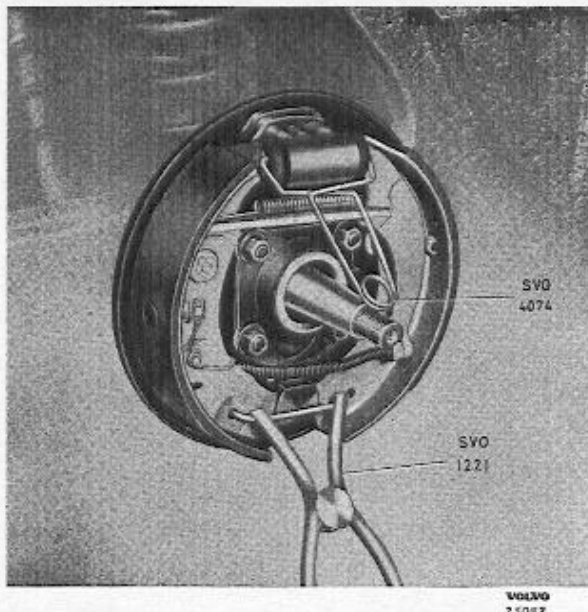

Fig. 21. Removing the lower spring.
3. Place clamp SVO 4074 on the wheel unit cylinder so that the plungers cannot be pressed outwards. Remove the lower spring with the help of pliers SVO 1221 (Fig. 21). Remove the locking washer and other washers from the front shoe. Then turn the shoe outwards so that the handbrake link can be removed. Lift off the front brake shoe and return spring. Disconnect the handbrake cable and remove the rear shoe.